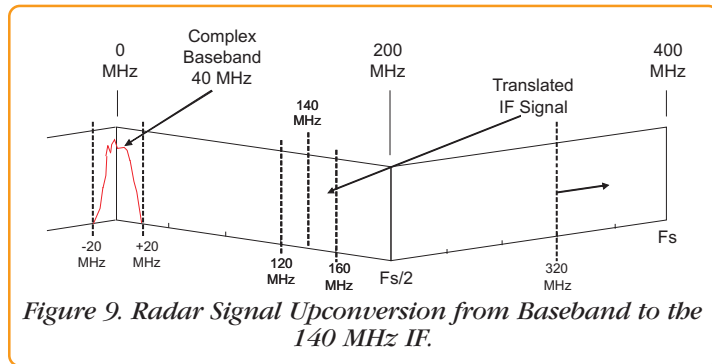

Figure 9. Radar Signal Upconversion from Baseband to the 140 MHz IF.
► As shown in Figure 9, we chose the complex baseband signal to have 40 MHz bandwidth. When translated to the 140 MHz IF, the 40 MHz signal extends from 120 MHz to 160 MHz. The output sampling frequency must be at least twice the 160 MHz highest frequency, or 320 MHz minimum. Let's choose 400 MHz to be on the safe side, and use the interpolation filter and DUC to translate the baseband to the IF frequency.